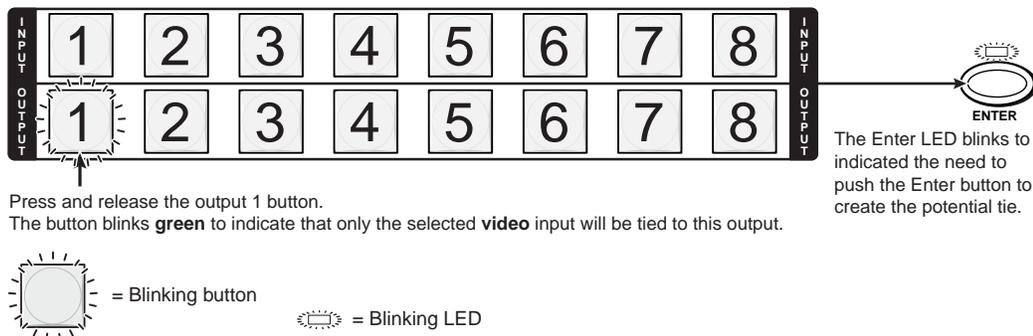

Figure 3-11 — Select the output
4. Press and release the output 1 button (figure 3-11). The output 1 button blinks green to indicate a tentative video tie.